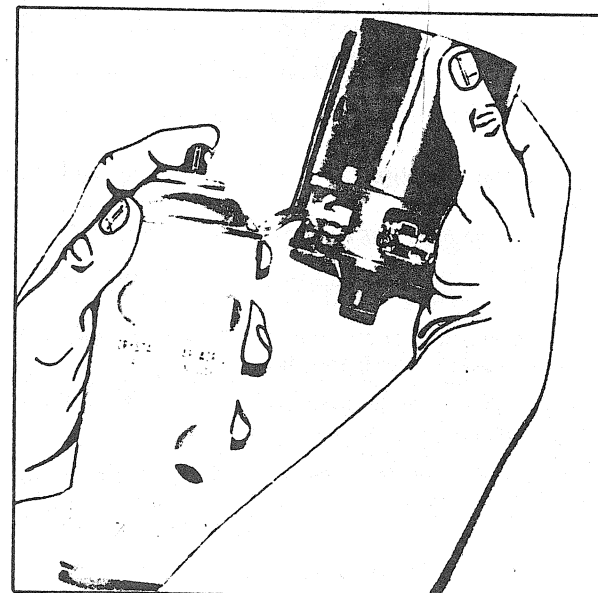

FIGURE 13
- Tape the armature commutator and brushes then spray field coils and carbon brush springs with 'Crystal Clear'. (Fig. 13).